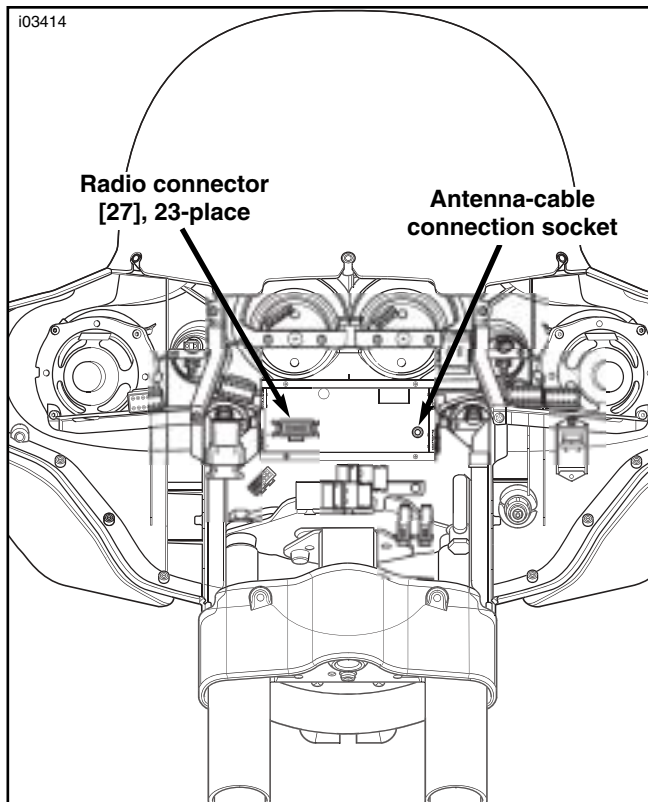

Figure 2. Radio Connections
4. See Figure 2. Plug the radio-antenna cable connector into the back of the radio. Tuck excess cable under the right corner of the radio.